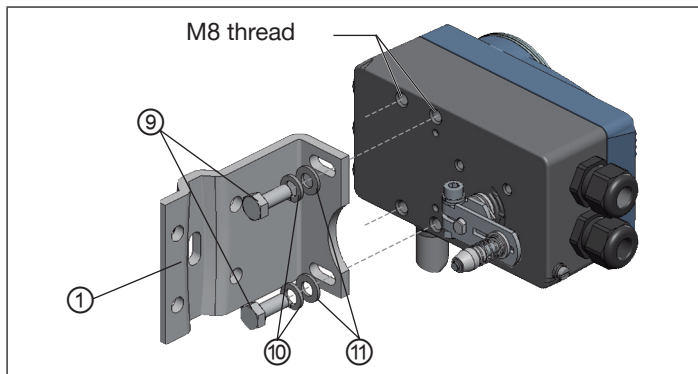

Fig. 10: Attaching mounting bracket
- Attach mounting bracket ① to the back of the positioner with hexagon bolts ⑨, circlip ⑩ and washers ⑪ (see “Fig. 10”).